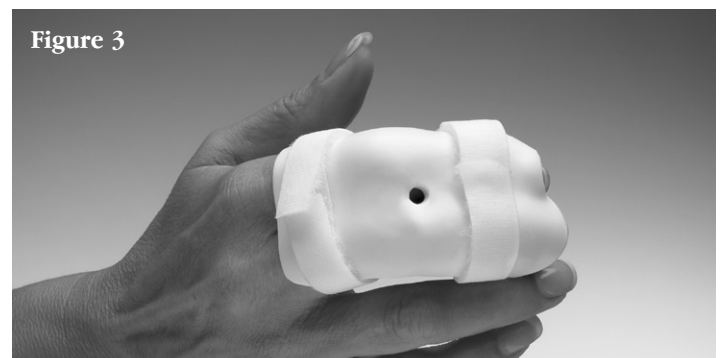

Figure 4
- Mold the forearm piece circumferentially around the distal forearm with the opening on the ulnar side of the arm. (Figure 4) Be sure that the ulnar styloid is free of pressure. Distal migration of the splint can be minimized somewhat by contouring the splint along the interosseous membrane depression, proximal to the wrist.